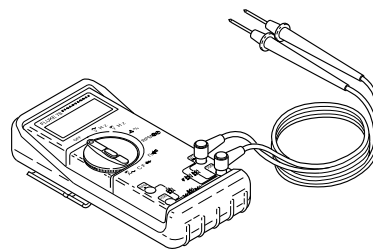

Figure 4-12. Fluke 78 Multimeter (DVOM) (Part No. HD-39978)
1. See Figure 4-12. Connect DVOM (Part No. HD-39978) to wiring harness between the suspect connections. When diagnosing ECM connections, use a BREAKOUT BOX (Part No. HD-48637) to simplify the procedure. See 4.7 BREAKOUT BOX: EFI.